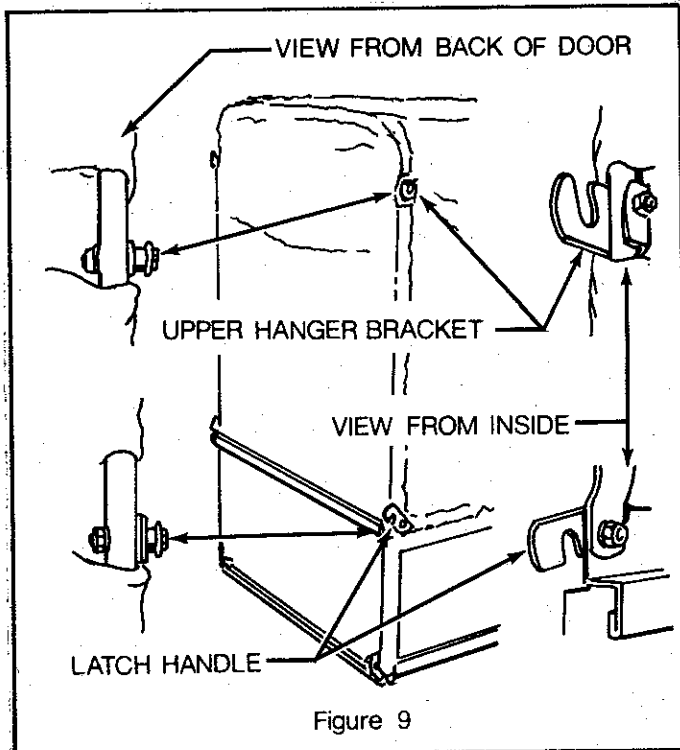

Figure 9
5. Install the rear door catches (Figure 9).
6. Engage the upper door frame side capscrews in the upper hanger brackets and push the bottom edge into place in the box bed. Engage the rear latches to the lower door frame side capscrews (Figure 9).